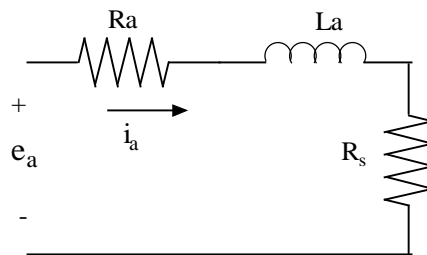

Figure 2: RL circuit
6. Compute the voltage drop across  $R_s$  in the circuit shown in Figure 2. Also find the time constant for this R-L circuit